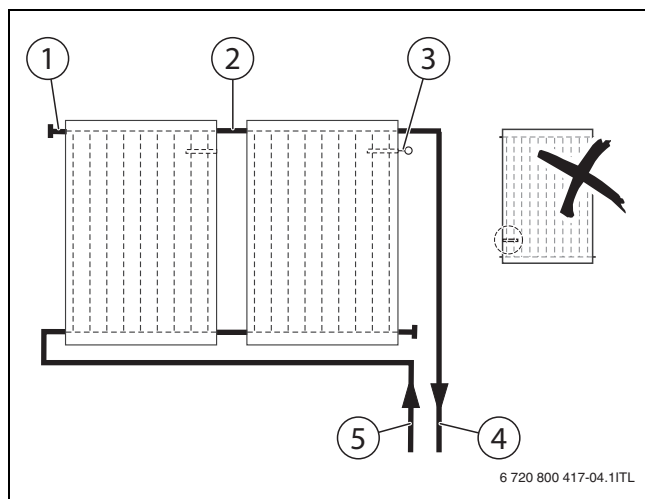

Fig. 13 Arranging the collectors
- ▶ Connect the collector array alternately (→ Fig. 13).
- ▶ Plan the routing of the collector sensor lead so that the collector sensor (Fig. 13 [3]) can be fitted to the collector to which the flow [4] has been fitted.